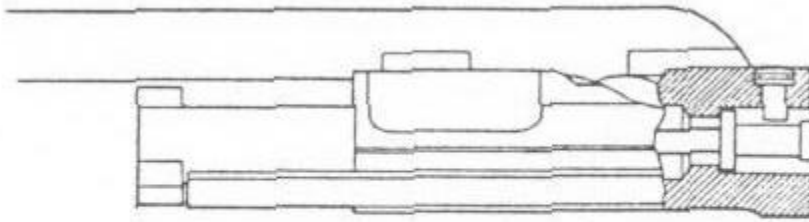

FIGURE 25
21. Before installing the firing pin, fully extend the bolt. Be sure that the firing pin retaining pin is behind the large shoulder of the firing pin. (See Figure 25).